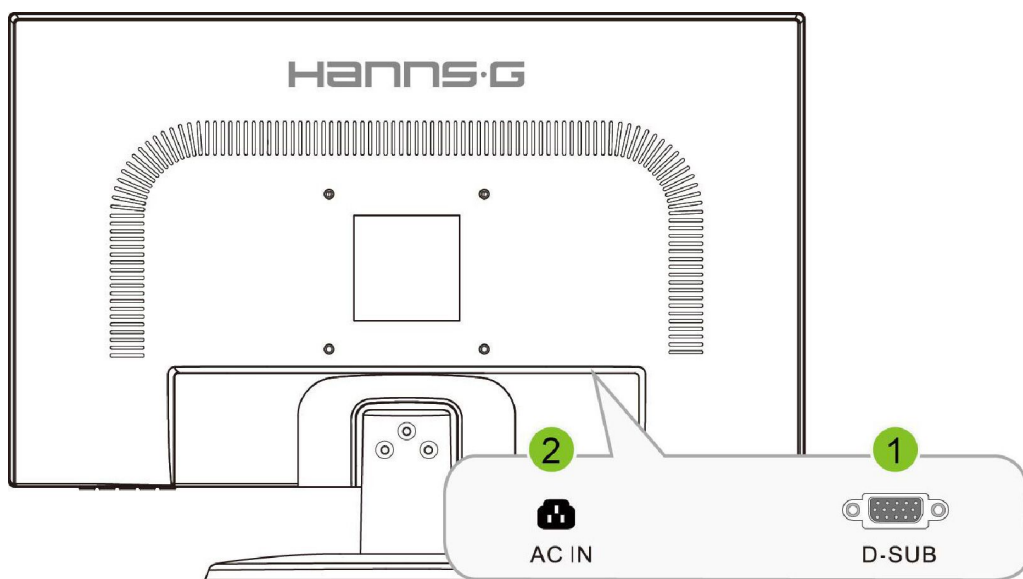

Figure.2. Connecting to a PC
3. Rotate the base as shown in the illustration (Figure 2) until a 'click' is heard.
3. Detach the base from the monitor(Figure 2).